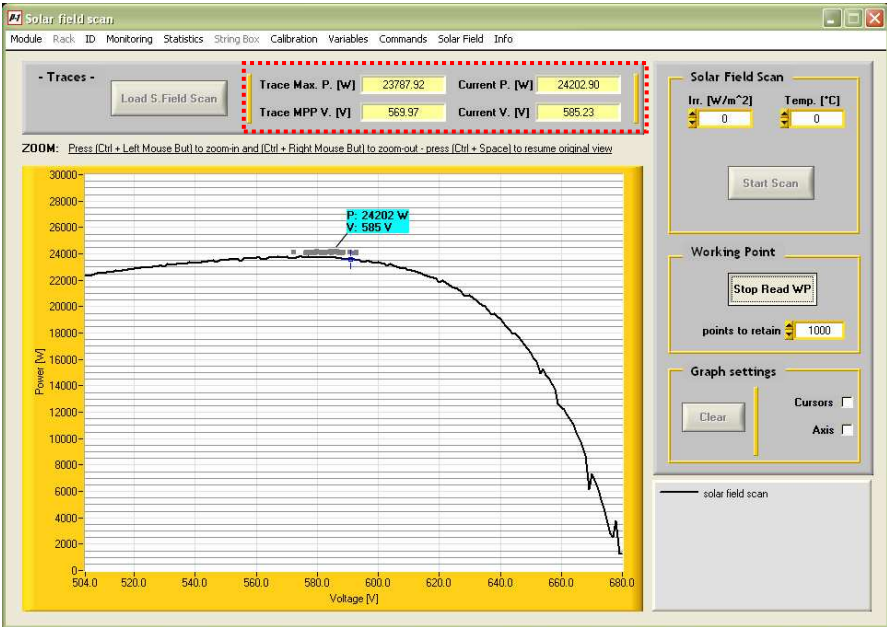

Figure 16-18: Solar Field Scan
- Enter a name and press [OK]. After the file has been saved, the curve is drawn (Figure 16-18)
Pressing the [Read WP] button allows the visualisation of the work point as indicated in the example in Figure 16-18.